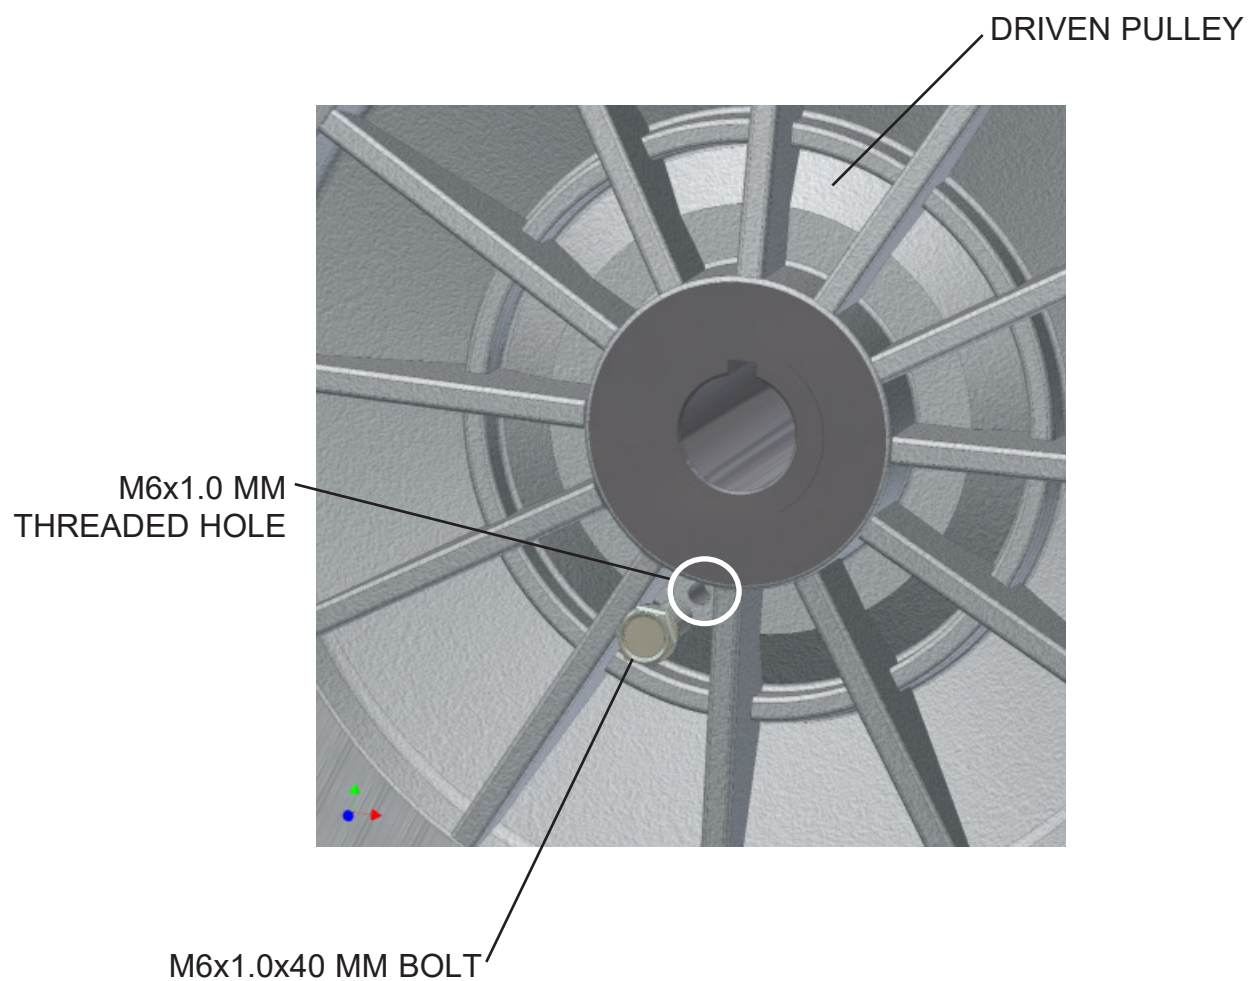

FIGURE 3.3.3
- 4) Use a M6x1.0x40 mm bolt to spread apart the pulleys to allow slack in the belt and remove it from the lower and upper pulleys. Refer to Figure 3.3.3.